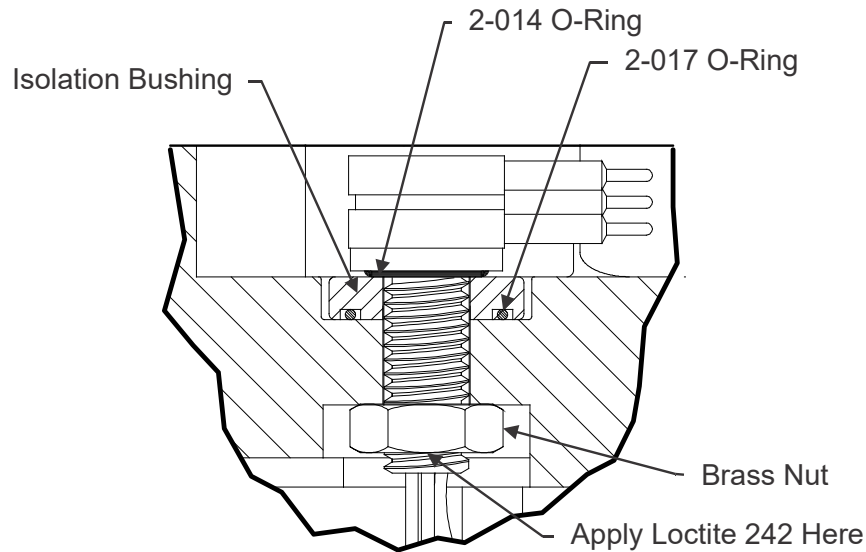

Figure 33. End-Cap Connector with Isolation Bushing
3. Systems with a metal end-cap use an isolation bushing and 2-017 O-ring between the end-cap and the 7-pin connector. Press the new bushing and O-ring onto the end-cap as shown in Figure 33.